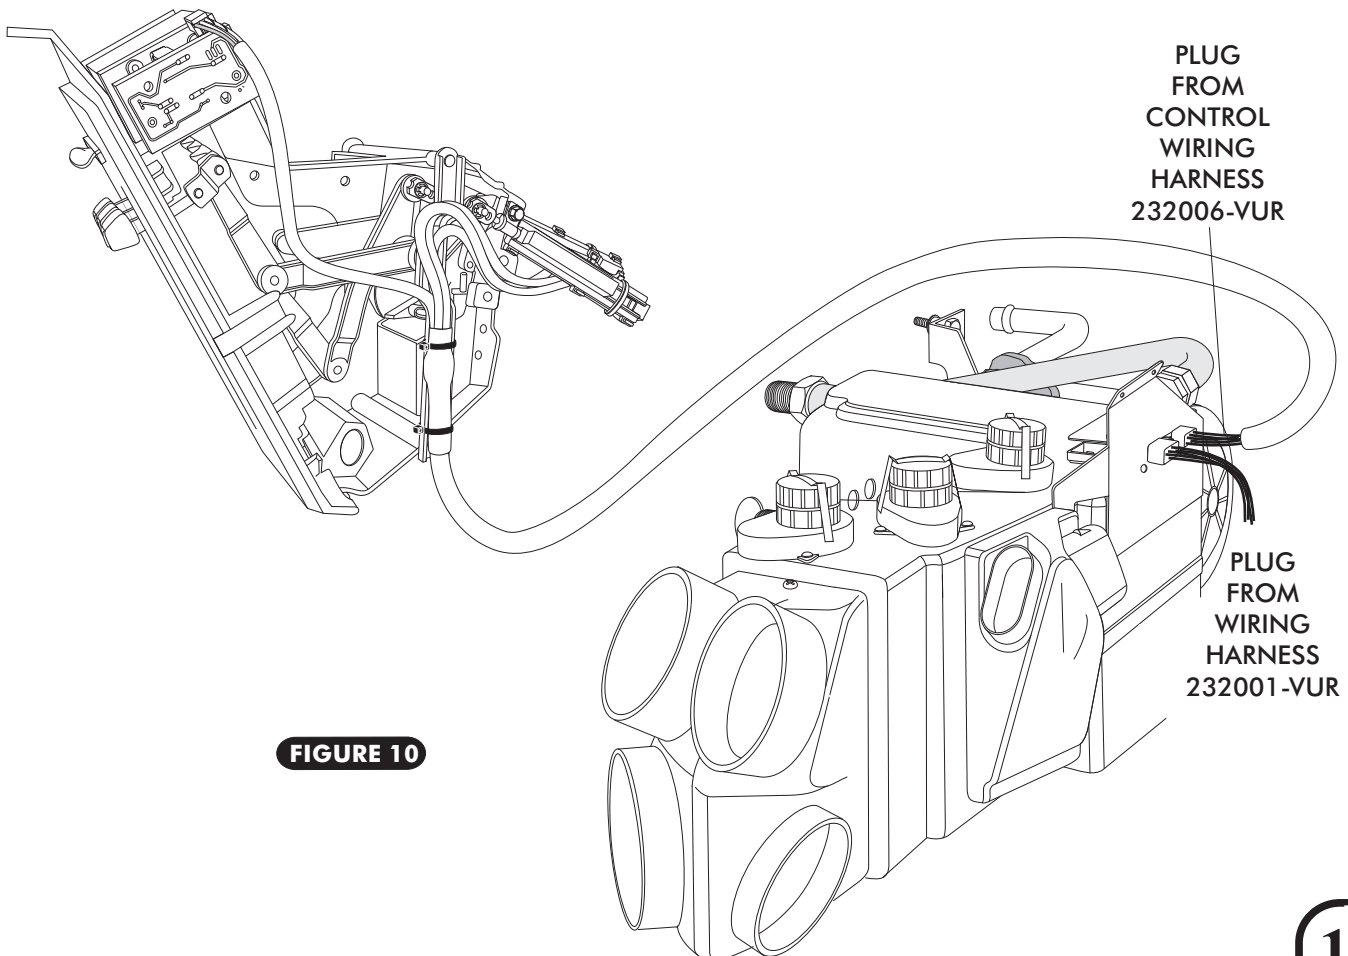

FIGURE 10
- USING THE SUPPLIED TIE-WRAPS, TIE THE WIRES TO THE CONTROL PANEL AS SHOWN IN FIGURE 10 BELOW. CONFIRM THAT WIRES ARE SECURED AND DO NOT INTERFERE WITH LEVER OPERATION OR SLIDE POT ASSEMBLY.
- PLUG THE WIRING HARNESS INTO THE ECU MODULE ON SUB CASE. SEE FIGURE 10 BELOW.